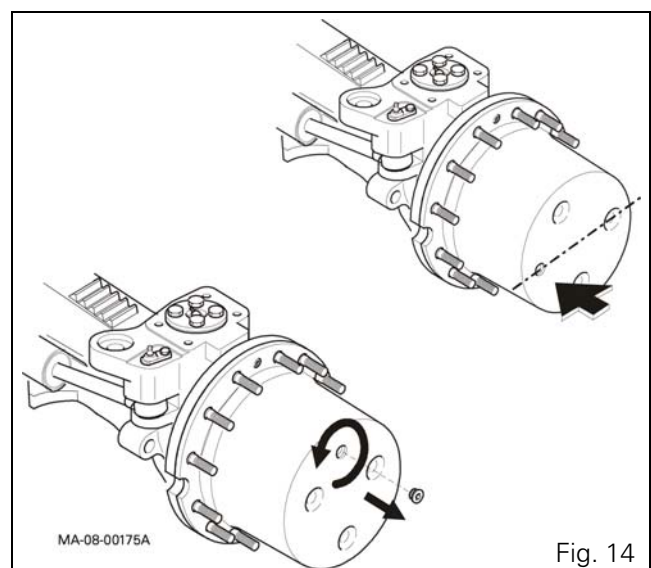

Fig. 14
3. Before draining or topping up the oil in the final drive units, direct the wheel hub so that the filler port (Fig. 14) is at its highest point, then loosen the relevant cap to release any internal residual pressure (Fig. 14)